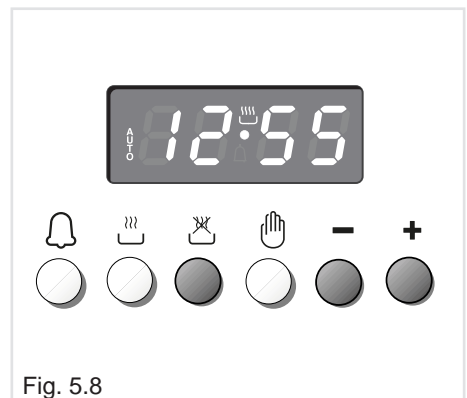

Fig. 5.8
2. Set the end of the cooking time by pushing the  button and the  button to advance, or  to go backwards if you have passed the desired time (fig. 5.8).